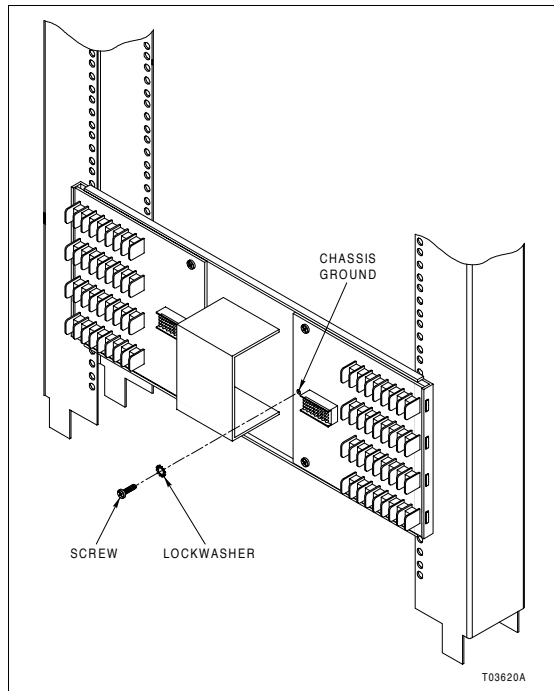

Figure PR2-2. Chassis Ground Connection
- ☐ 3. Connect chassis ground to the termination unit by installing a screw with lockwasher in the location shown in Figure PR2-2.